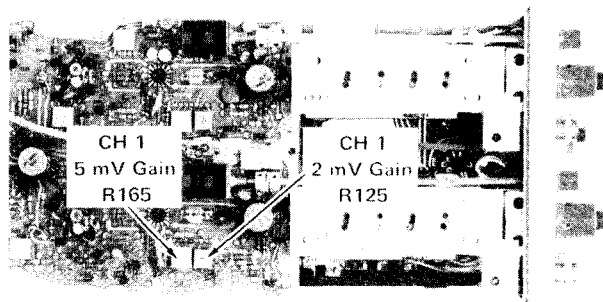

Fig. 5-12. Location of Gain adjustments for Channel 1.
g. ADJUST—CH 1 5 mV Gain adjustment, R165 (see Fig. 5-12) for a 200 mV (peak-to-peak) display on the Test Oscilloscope.
j. ADJUST—CH 1 2 mV Gain adjustment, R125 (see Fig. 5-12) for a 100 mV (peak-to-peak) display on the Test Oscilloscope.